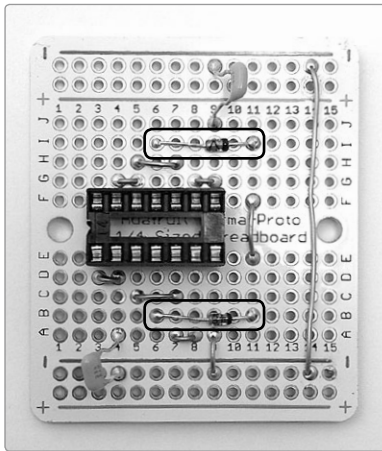

FIGURE 15-11: Adding the diodes. Note that in both cases, the negative-leg stripe is to the right.
Step 9 Connect the diodes. Unlike the caps, the diodes *are* polarized, so each has a positive and negative leg. The negative leg is indicated by a dark stripe on the body of the diode. For both diodes, that stripe will go to the right, as shown in Figure 15-11. Run one diode from 6I to 11I and the other from 6B to 11B. As with other components spanning multiple columns, be mindful not to press the legs down flush with the surface of the PCB because this could create short circuits in the intervening columns. Solder the diodes now.